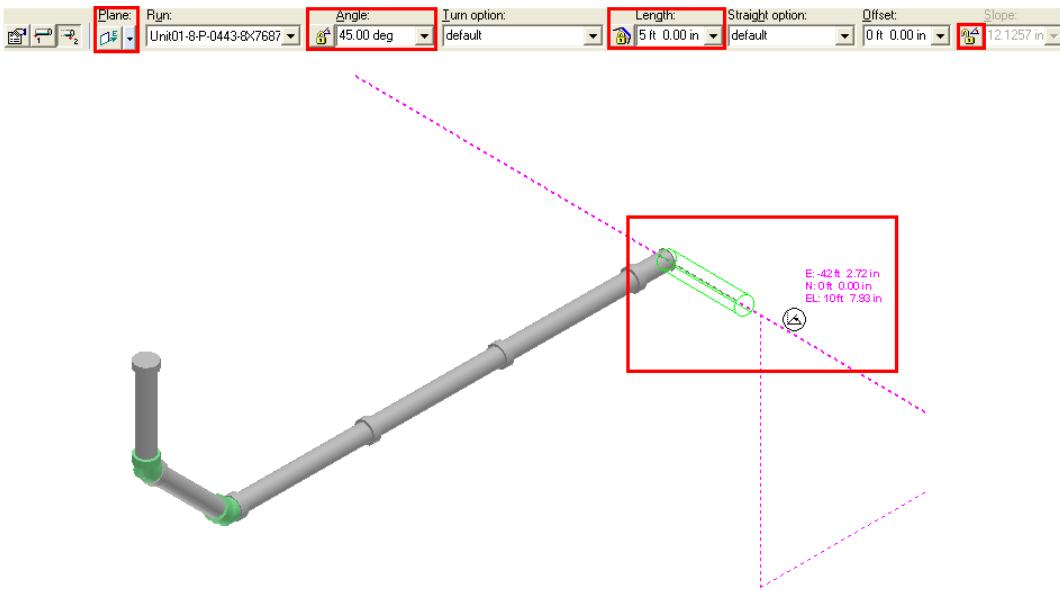

Figure 13: 5 Ft Pipe Routed
18. Select the **Lock Slope** option on the **Route Pipe** ribbon to unlock the slope constraint to route the sloped pipe, as shown in Figure 13.